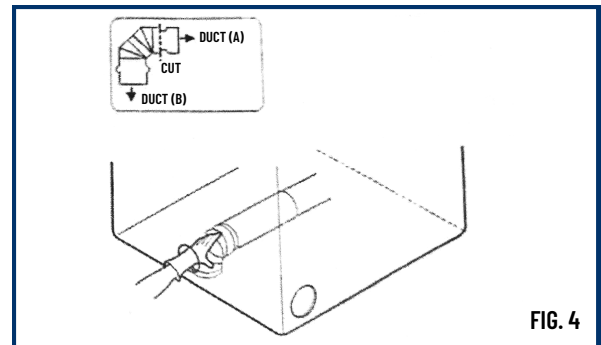

FIG. 4
6. Cut the elbow as shown in (Fig. 4).